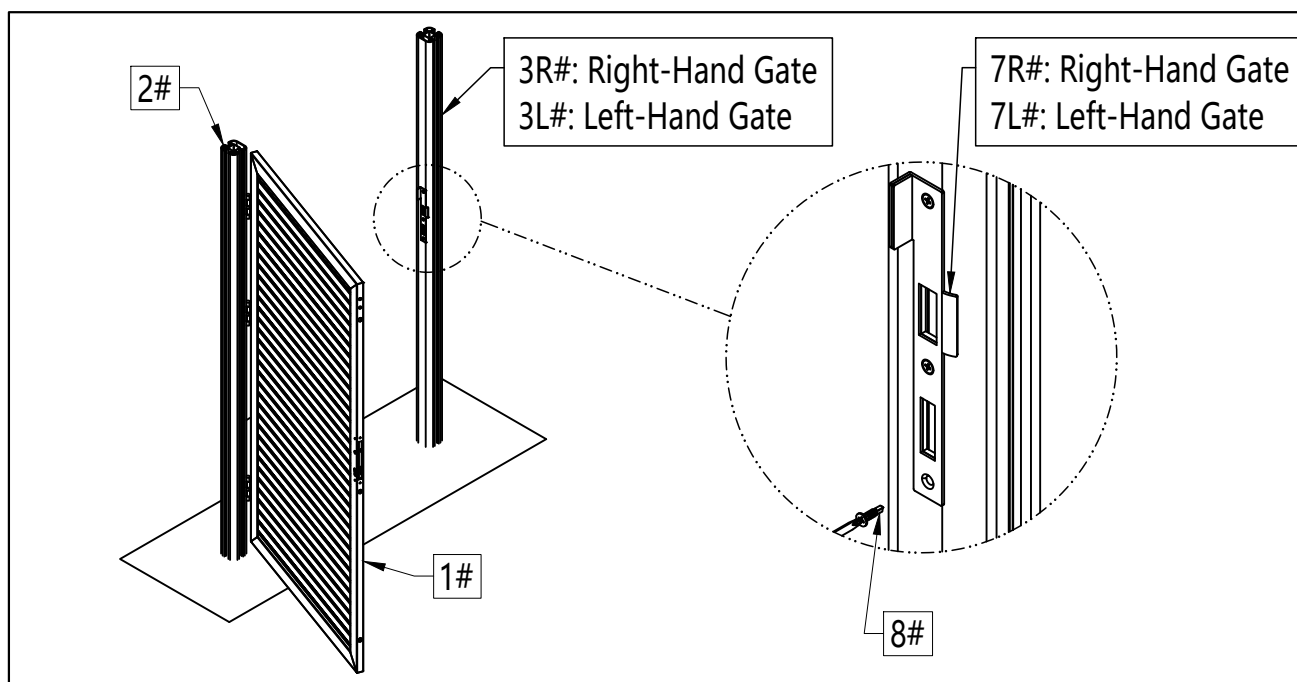

Figure 11
- 11 Put the Strike Plate (7R#/7L#) onto the Gate Post (3R#/3L#) in place and fix it with Screws (8#), as shown in Figure 11.